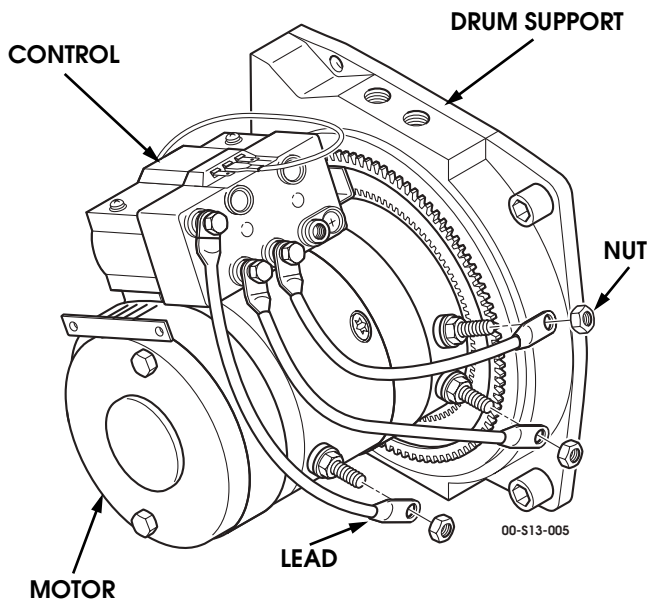

Figure 13-5: Control Leads
2. Remove three nuts and control leads from motor (Figure 13-5).